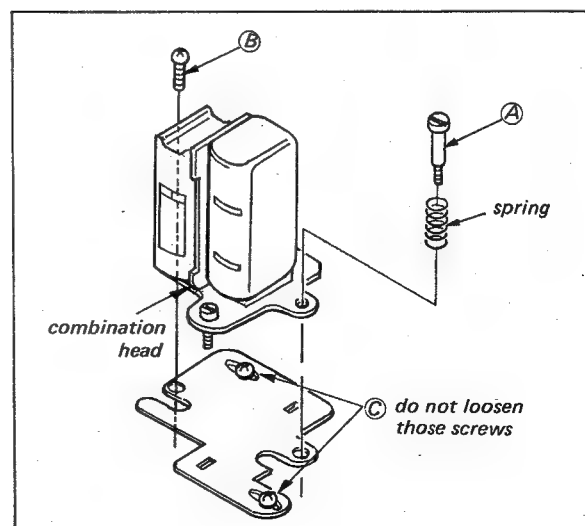

Fig. 4-12. Combination head replacement
2. Remove screws (A) and (B) in Fig. 4-12. Do not remove screws (C). Be sure not to lose the spring under screw (A).